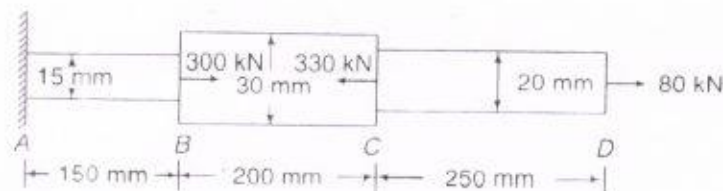

Fig. 1
Q.I. B A steel circular bar has three segments as shown in Fig. 1. **Determine**